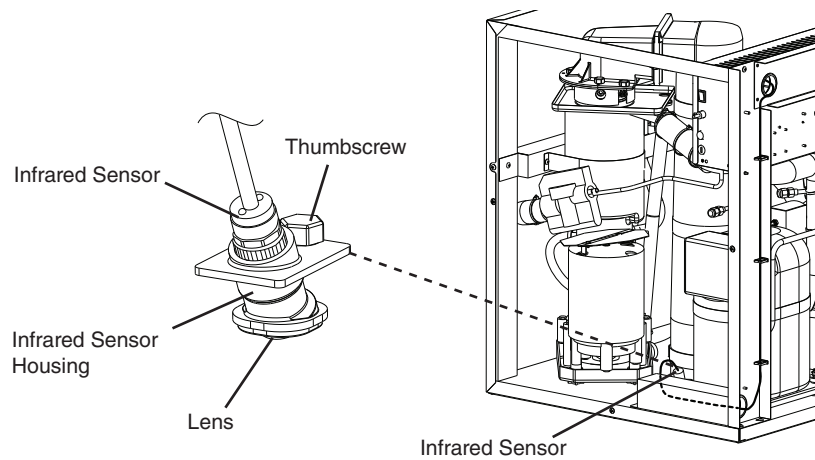

Fig. 19
- 7) "GM" LED and "COMP" LED are on. Use an object to cover the infrared sensor lens at the bottom of the icemaker. If the bottom of the icemaker is not accessible in your application, remove the thumbscrew securing the infrared sensor housing, remove the housing from the base, then cover the infrared sensor lens. See Fig. 19. The yellow LED on the infrared sensor turns on. The yellow LED flashes when ice is at the outer limit of its range and turns steady as ice nears. After the yellow LED turns on (flashing or steady), the infrared sensor shutdown delay timer starts (S1 dip switch 1, 2, 3; factory default is 100sec.). "Comp" LED turns off after the shutdown delay timer terminates. 5 minutes later, "GM" LED turns off.